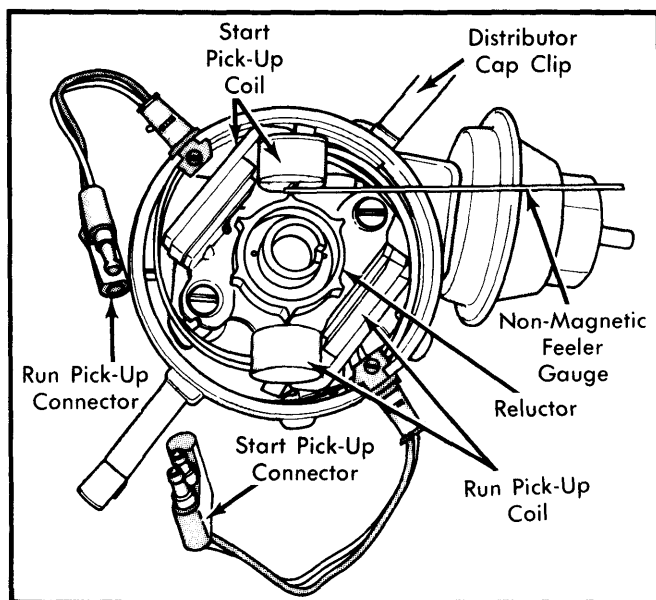

Fig. 3 Checking Air Gap of Dual Pick-Up Distributor's Run Pick-Up Coil
1) To set **start** pick-up coil air gap, loosen hold-down screw and align one reluctor tooth with pick-up coil pole. Install .006" non-magnetic feeler gauge between reluctor tooth and pick-up coil pole. See Fig. 3. Move pick-up coil assembly until contact is made between pick-up coil pole, feeler gauge and reluctor tooth. Tighten hold-down screw and remove feeler gauge. Gauge should not require force during removal.